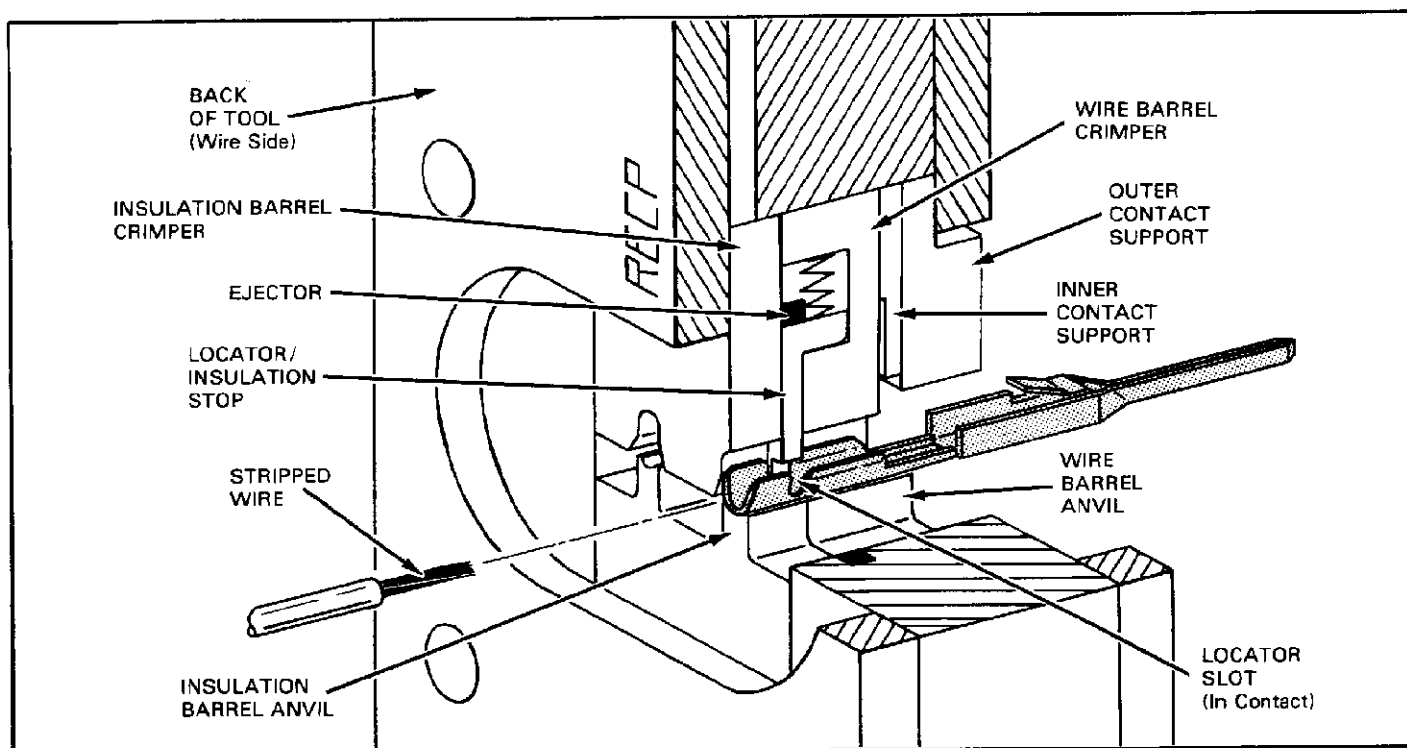

Fig. I-3
1. Hold tool so BACK side (wire side) faces you. See Figure I-3.